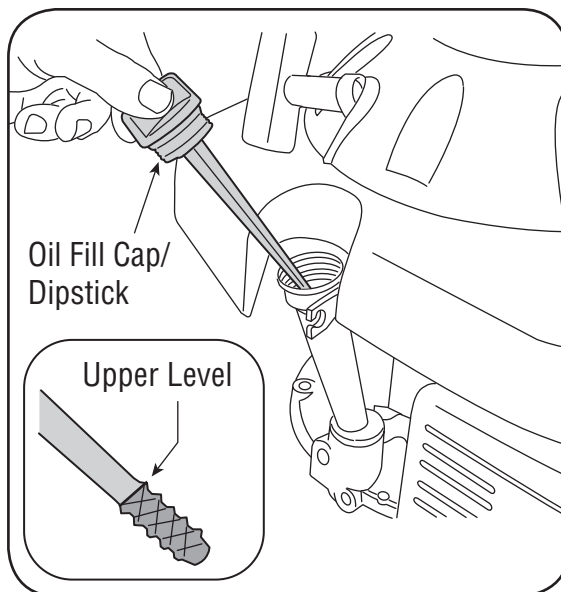

Figure 9-3
1. Remove the oil filler cap and wipe the dipstick clean. See Figure 9-3.
3. If the level is low, slowly add oil to the upper limit on the dipstick. See Figure 9-3 inset.